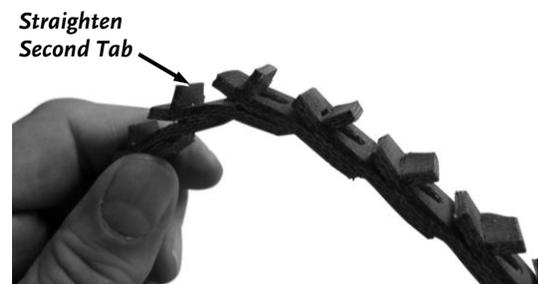

Figure 22
- Twist the Tab back to the locking position (**Figure 22**).